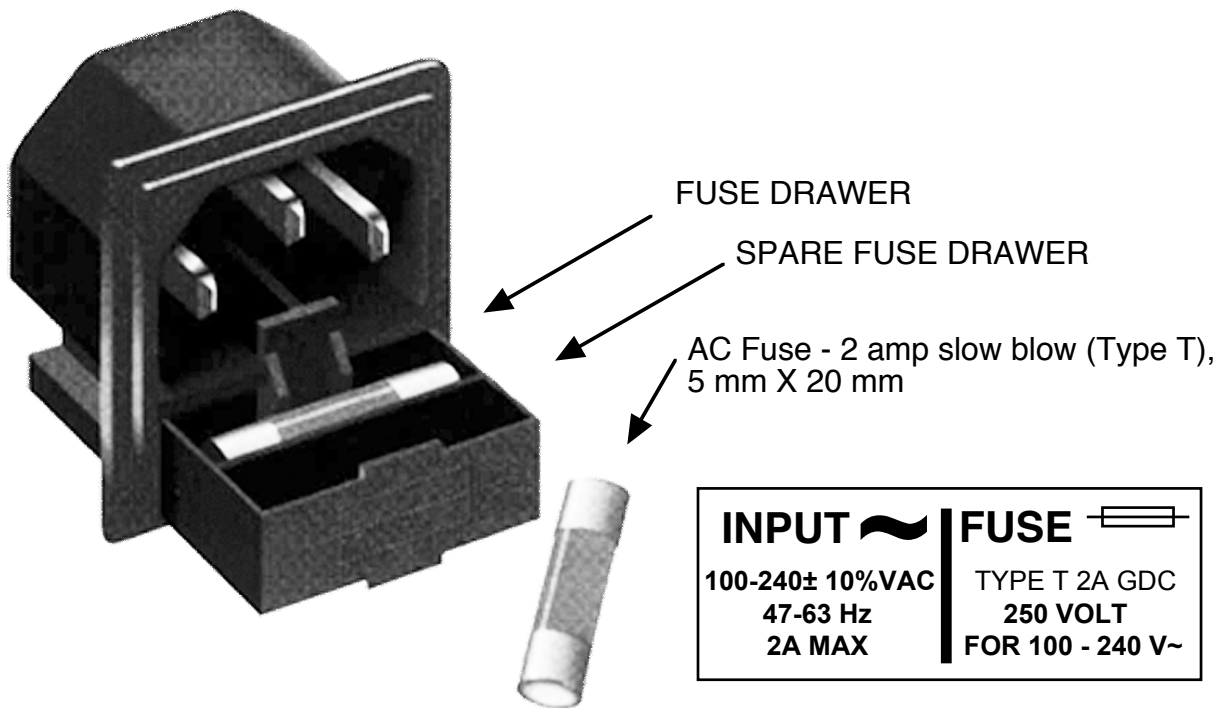

FIGURE 2.3 Fuse Location and Spare Fuse
- 6.) **AC Fuses** - The fuses are 5 mm X 20 mm, 2 amp slow blow (Type T) and are inserted in the far slot in the drawer below the AC inputs as shown in Figure 2.3. There is a spare fuse in the near slot. If a fuse continues to open, the power supply is most likely defective.